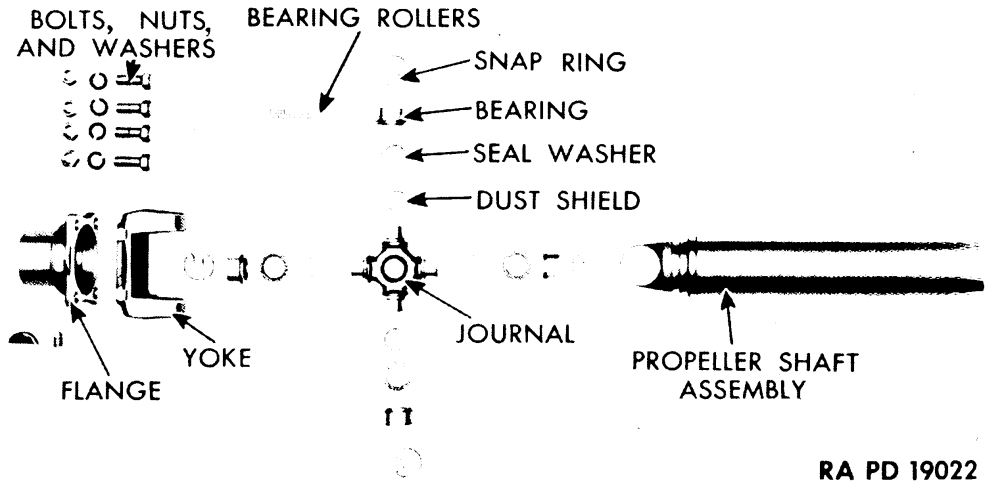

Figure 95 — Rear End of Winch Drive Shaft — Disassembled
c. **Winch Drive Shaft (figs. 95 and 96).** While the winch drive shaft is similar to the propeller shafts of the front and rear axle, there are minor structural differences. Disassembly is as follows: